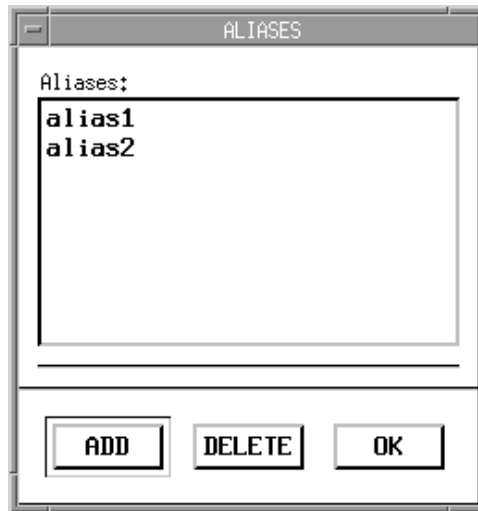

Figure 29. ALIASES Window
STEP 5: Add aliases for a machine, if desired. Click on the **ALIASES** button in the **ADD MACHINE** window to open the **ALIASES** window (Figure 29).